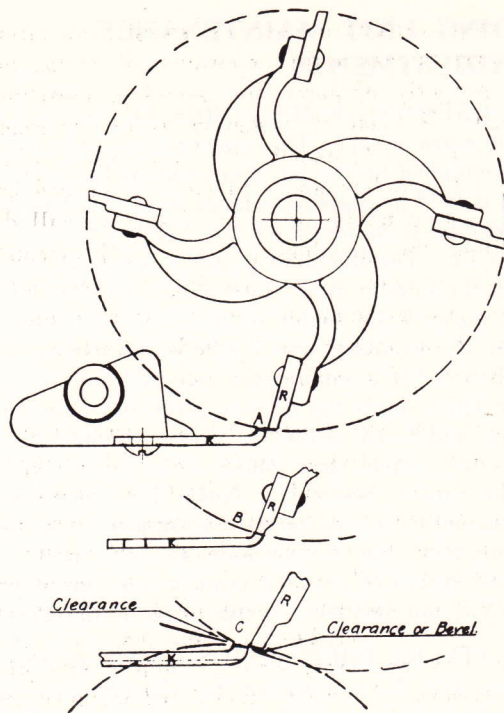

Fig. 6
44. This is why a new lawnmower, especially a hand mower, can be improved by grinding the reel blades on the Peerless Sharpener. Only when the reel blades are ground one at a time can each blade be given a bevel and thus a desirable clearance behind the cutting edge (See Fig. 6). A power mower does not need as much clearance as a hand lawnmower as they need not be pushed and the cutting edges need extra strength which results by decreasing the clearance angle.